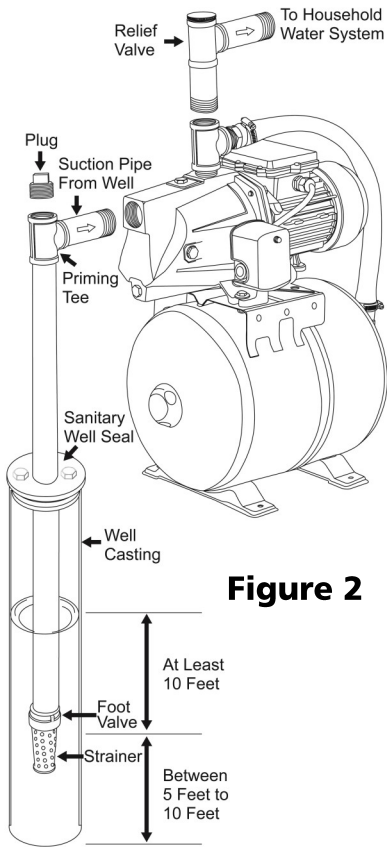

Figure 2
3. Install a priming tee with a plug on the suction pipe from the water source as shown in Figure 2. Install a union to allow the pump to be easily disassembled from the piping for easy servicing. **Make sure Teflon tape or pipe joint compound is used on all joints. The suction pipe should be at least 1 1/4"**